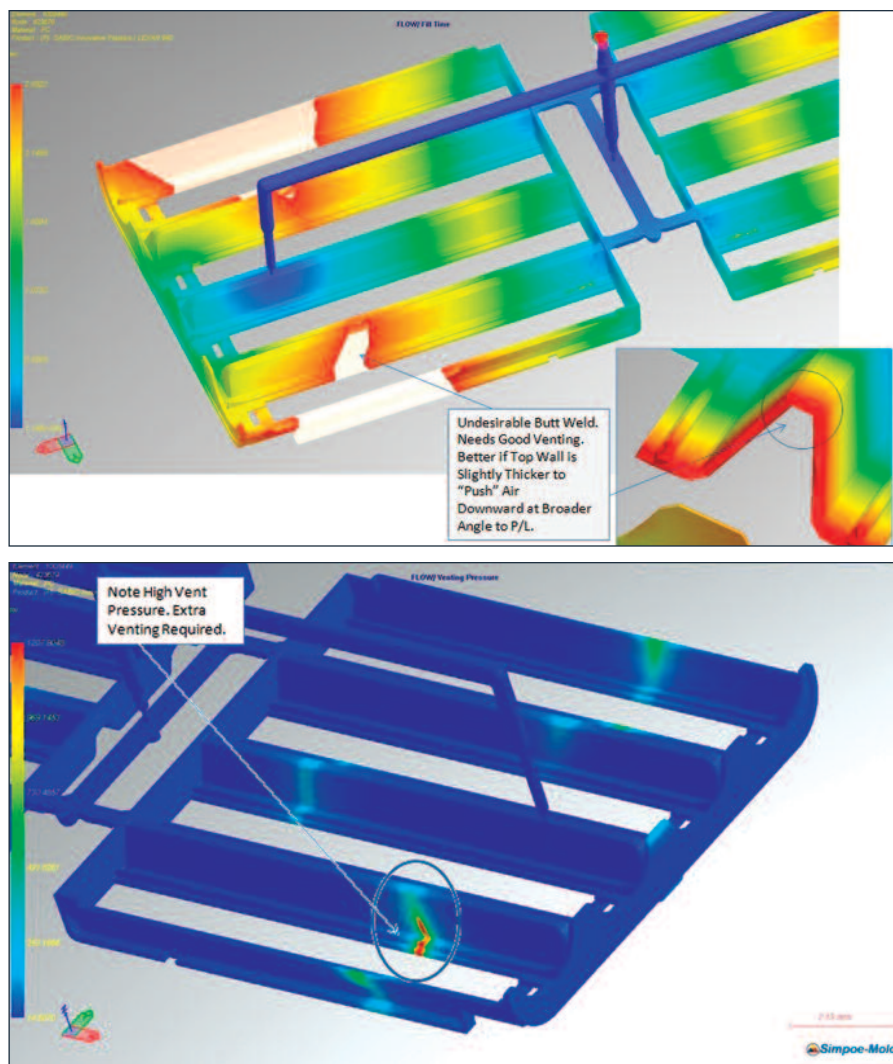

Figure 1: Flow front with a bad weld (top image); high pressure at weld site (bottom) with likely a slower fill time required to avoid burn marks.
- Avoid situations where melt fronts join at a shallow angle, which can result in gas traps or flow hesitation. If possible, change the gating locations or add some wall thickness to broaden the melt front angles (see *Figure 1*).